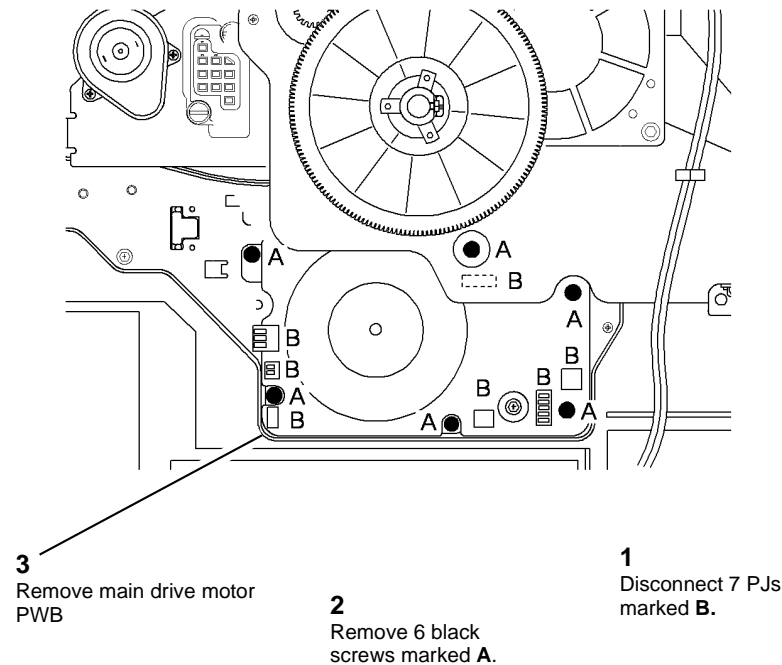

Figure 2 Main drive PWB
3. Remove the main drive PWB, Figure 2.